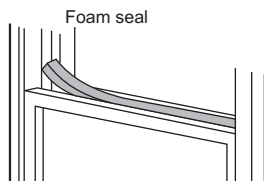

Fig.11
5. Cut the foam seal to an appropriate length and sealing the open gap between the top window sash and outer window sash. Show as in Fig.11.